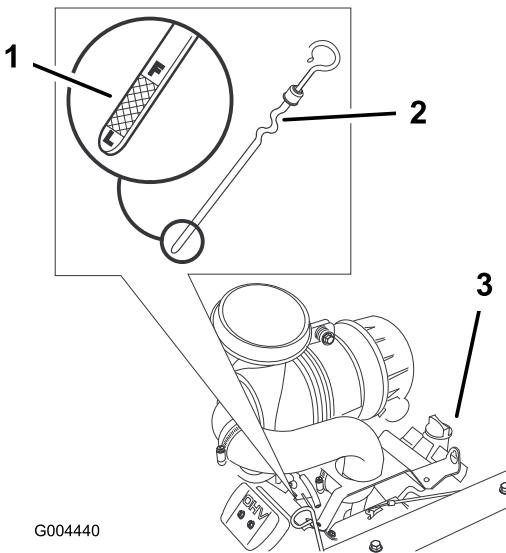

Figure 37
3. Clean around the oil dipstick (Figure 37) so dirt cannot fall into engine.
4. Pull the oil dipstick and wipe the metal end clean (Figure 37).
5. Slide the oil dipstick fully into the engine. Pull the dipstick out and look at the metal end (Figure 37). If oil level is low, slowly pour only enough oil into the filler tube to raise the level to the full mark.
9. Slowly pour approximately 80% of the specified oil into the filler tube (Figure 37).